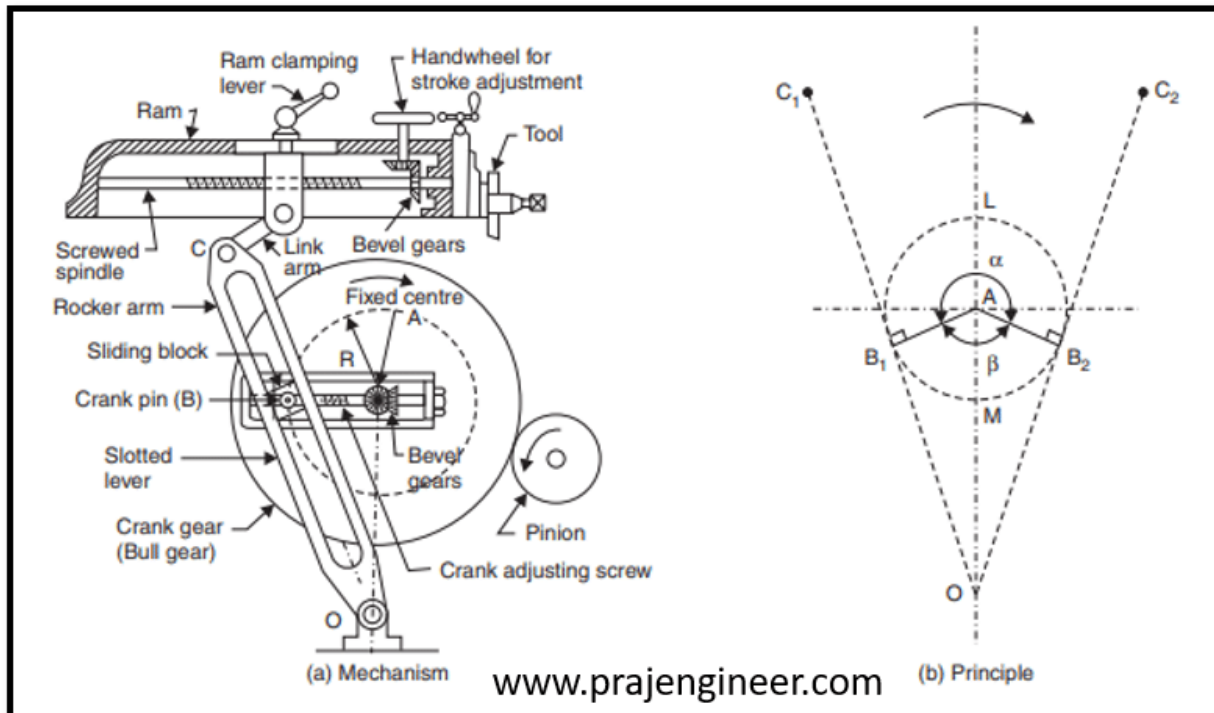

Fig. 2 Quick return mechanism
- The slotted lever quick return mechanism is illustrated in Fig. 2.
- One end C is connected to the ram by a short link arm and the slotted lever is pivoted at O as shown in Fig. 2.